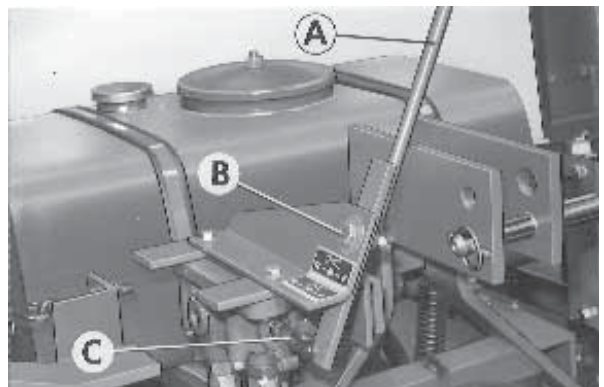

Fig.13
- 4. Using oil SAE 30 lightly oil the valve lever pivot bolt (B Fig. 13) and connecting link (C Fig. 13).